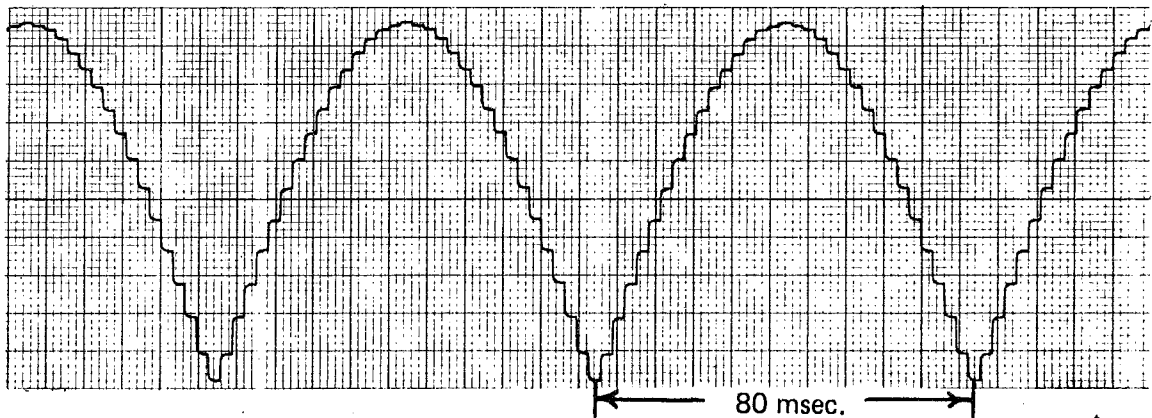

FIGURE 5-16 OUTPUT SIGNAL 5V PEAK U424-1 OR J402-2 SINE
2. This can be achieved by connecting an oscilloscope to J402 pins 2 or 1 for the sine and cosine outputs, and J402 pins 4 or 5 for their respective gating signals. Refer to Figures 5-16, 5-17, and 5-18.